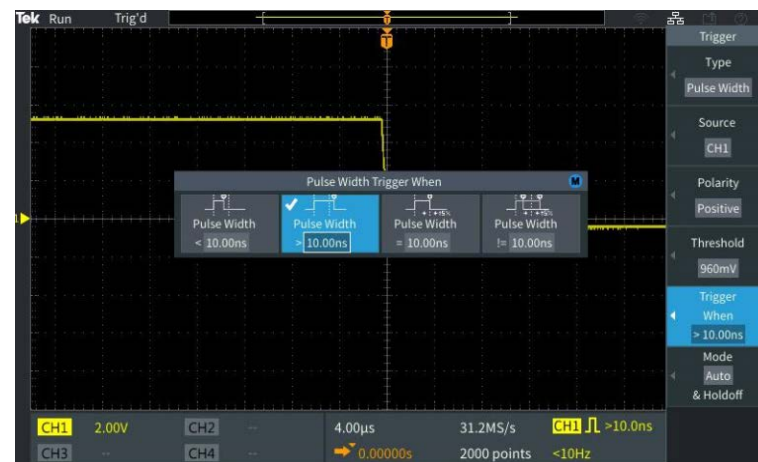

Figure 7. Setting pulse width trigger parameters
9. Press **Trigger When**, and use the MPK to select **Pulse Width >**. Change the pulse duration to > 10ns. Since the pulse width is much greater than 10 ns, the waveform triggers (Figure 7).